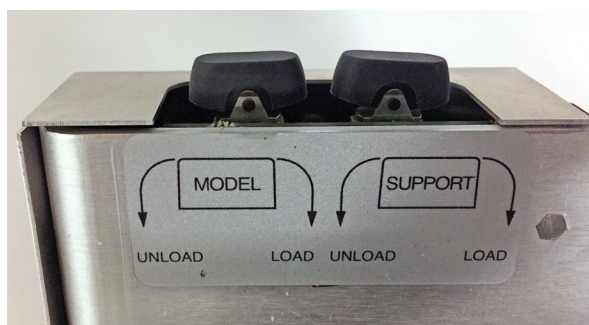

Figure 12: The model-side UNLOAD/LOAD rocker button is located on the top left of the head assembly.
STEP 6: On the head assembly, press the model "UNLOAD" button to move the model filament away from the tip (Figure 12).